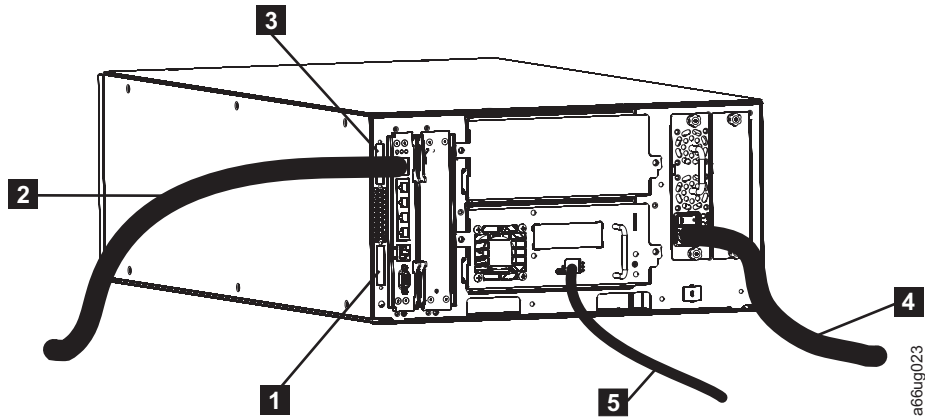

Figure 4-23. Cabling of a 5U library with fibre drives
1. Install the upper module communication terminator (**3** in Figure 4-23).
2. Install the lower module communication terminator (**1** in Figure 4-23).
3. Connect one end of the customer-supplied Ethernet cable (**2** in Figure 4-23) in the Library Control Blade Ethernet port, then connect the other end of the cable to your network.
4. Connect one end of the drive-to-host cable (**5** in Figure 4-23) to the library, then connect the other end of the cable to your network. Repeat this for every drive in your library.
5. Connect one end of the power cord (**4** in Figure 4-23) in the receptacle in a power supply in your library, then connect the other end of the cord to your power source. Repeat this for every power supply in your library.